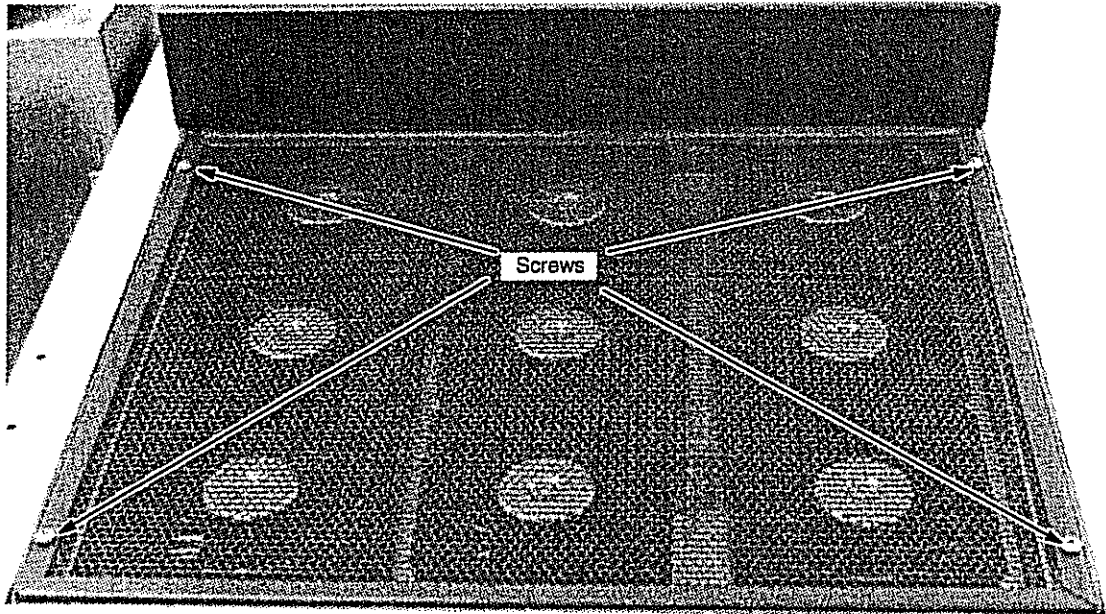

Figure 7-35. Top Fan-tray Perforated Cover
3. Remove the two countersunk screws that secure the top grill panel to the top of the chassis next to the side panels. Refer to Figure 7-35.